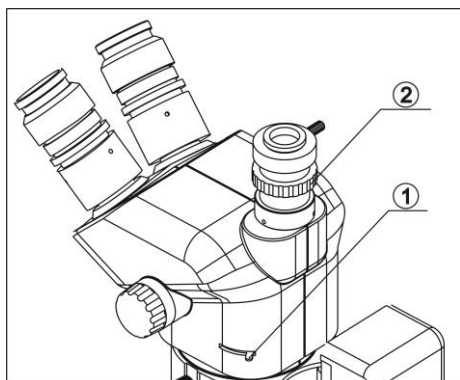

Fig 9
- (1) Turn the light path selection lever ① to "IN". (Fig 9)
- (2) Turn the zoom knob to the Max. magnification and observe through video camera and adjust focusing knob to make image clear.
- (3) Turn the zoom knob to the Mix. Magnification. If the image is not clear, please adjust the adjusting ring ② on video tube to make it clear.
- (4) Turn the zoom knob to Max. magnification again. If the image is still not clear, please repeat the step (2), (3) to make it clear within the whole zoom range.